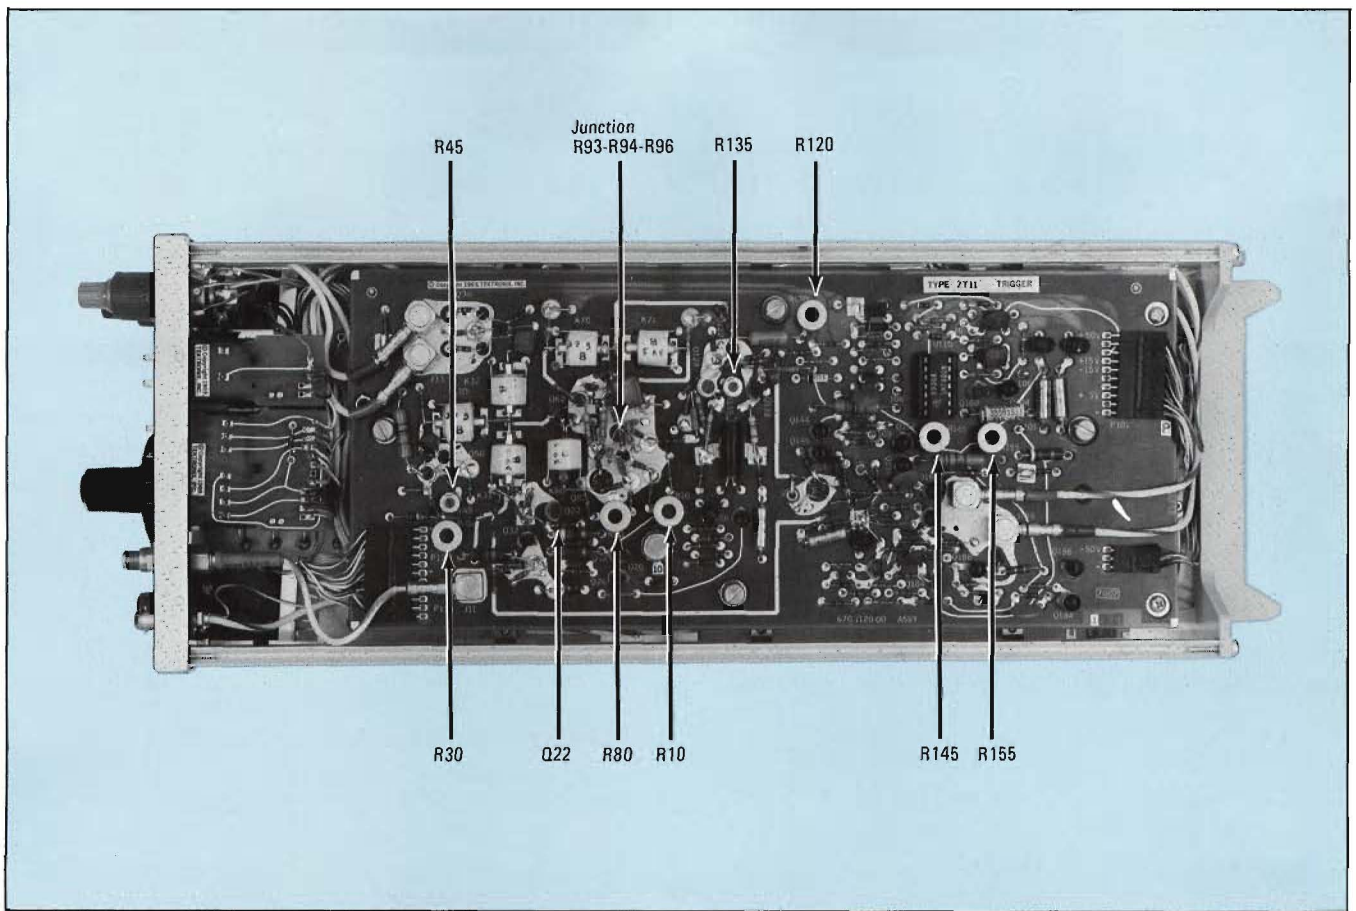

Fig. 2. Location of Trigger test points and adjustments (right side of instrument).
Fig. 2 shows the location of the trigger adjustments and test points referred to in this procedure.
5. Push the X10 TRIG AMP button and 50 Ω EXT trigger input button. Monitor the DC voltage at the junction of R93, R94, and R96 (see Fig. 2) with a test scope and a 1X probe set at 50 mV/DIV. Adjust R80 for close to zero volts. Remove scope probe and press X1 TRIG AMP button.
8. Disconnect all signals and set the STABILITY cw and TRIG LEVEL for a free-running display. Connect a coax cable between the EXT TRIG INPUT of the 7T11 and the vertical input to the 7S11; push the HF SYNC button. (NOTE: this will feed a synchronous trigger-kickout signal to the vertical.) Temporarily remove transistor Q22 (see Fig. 2) and set the TIME/DIV to 1 ns to display the kickout signal. Preset R30 about midrange and adjust R10 so the interval between waveforms may be varied between ≤ 3 ns and ≥ 4 ns using the front-panel STABILITY control.